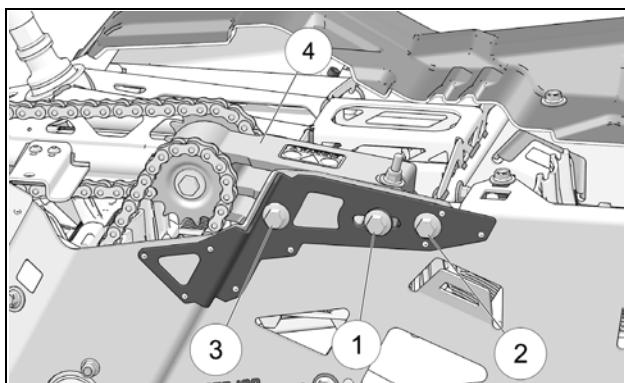

Figure 7
- Loosen assembly bolts (1) and (2) on left side panel. Loosen bolt (3) by only a half-turn. By loosening bolts (1) and (2), the Chain Tensioner (4) will be able to pivot on its axis. Bolt (3) must be kept under clamp load. See Figure 7.